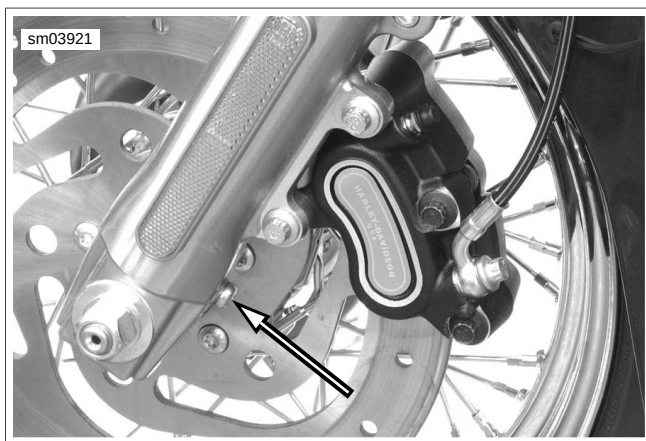

Figure 2-70. Fork Drain Screw: (Left Side Shown)
3. Drain fork oil. See Figure 2-70. Remove and discard the drain screws and washers from each fork and drain the fork oil.